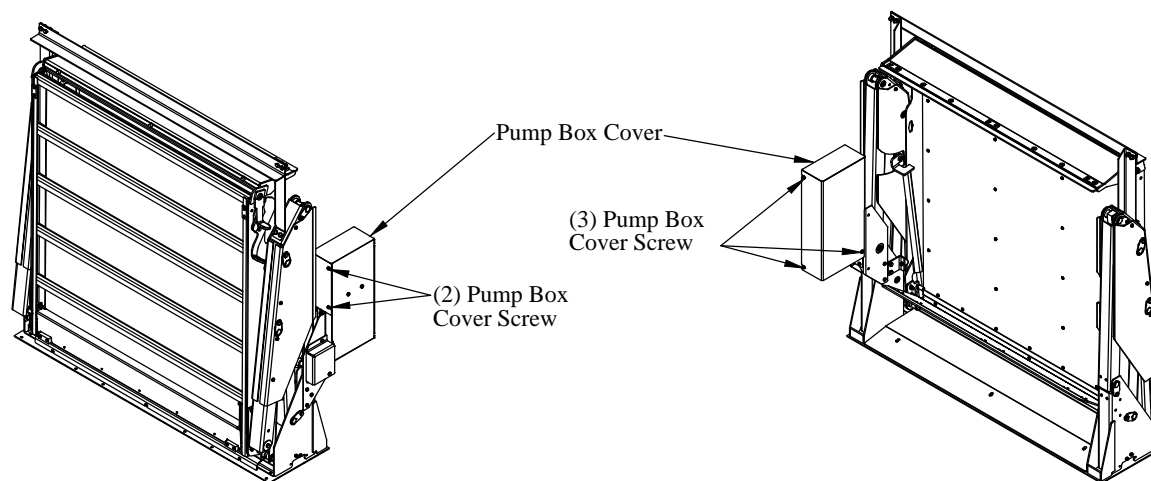

Figure 11: Pump Box.
3. **Remove** the pump box cover by removing five (5) thumb or hex screws (Figure 11).